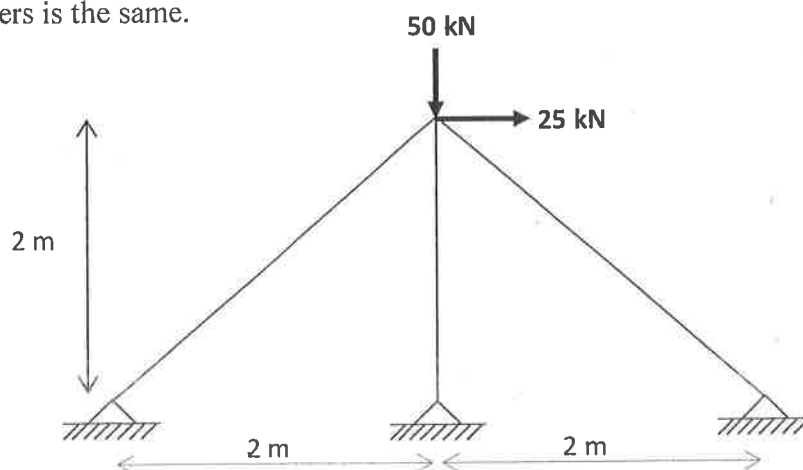

Fig. 3
4. Using flexibility method, analyse the plane truss shown in Fig.3. Assume the axial rigidity of the members is the same. (8 M)